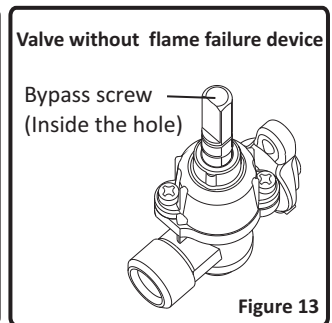

Figure 13
The flame length in the minimum position is adjusted with a flat screw located on the valve. For valves with flame failure device, the screw is located on the side of the valve spindle (Figure 11-12). For valves without flame failure device, the screw is located inside the valve spindle (Figure 13). For easier reduced flame adjustment, it is advised to remove the control panel (and microswitch, if present) during adjustment.
- Lift up the pan supports, caps and crowns of hob burners(Figure 13).